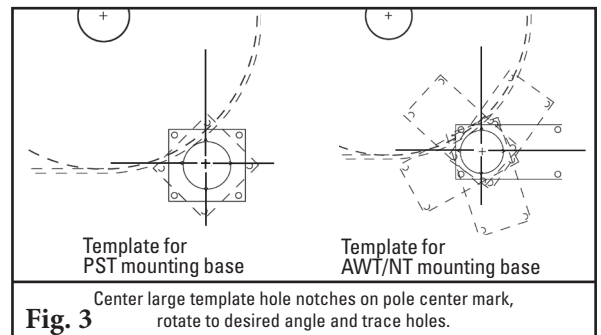

Fig. 3
- Pole location too far in - If there is no gap at the initial blade/belt contact (Fig. 3), the tip of the blade may not be touching the belt. In this case, the blade will push away and lose its shearing (cleaning) effect. The blade may also develop a flap at the tip which may trap material.
3. **Mark and cut the mounting base holes.** Using the mounting base template provided in the instruction packet, position the large pole hole of the template on the chute with the hole notches aligned with the layout lines. Trace the pole hole and mounting holes (Fig. 3). Each base can be mounted in any position 360° around the pole as long as the pole's center point does not change. Cut the holes on both sides of the chute.